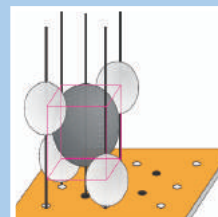

Figure 3: Showing  $\text{CH}_4$
- (1) Regular tetrahedral-shaped molecules such as  $\text{CH}_4$  can be made using side A of the model by putting four balls at the alternate corners of one of the eight small cubes (the cube on the side A can be visualized consisting of eight small cubes) and one in the centre. (Fig 3)